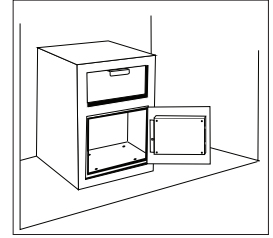

Figure 1
4. Place your safe in the desired location (Figure 1).